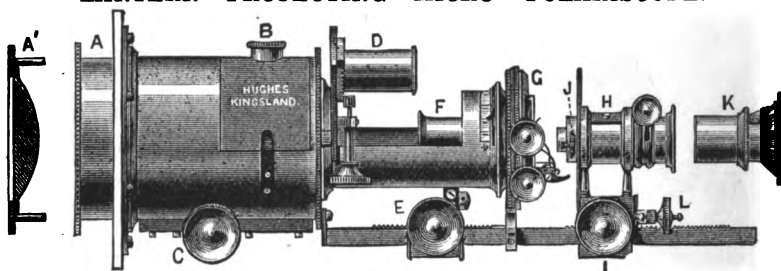

Fig. 55.
Fig. 55 illustrates this instrument which has all the latest improvements made up to the present time and has the polarizing prisms fitted, so that nearly all the experiments both in polarized light and projection can be shown to the class without in any way altering the instrument, a very great advantage to the demonstrator.
Reference to Fig. 55, shows—(A) cells containing condensers, one of which is fitted in cell upon a moveable rack work.—(C) by which means the amount of divergence of rays can be altered, this arrangement is for use with electric light, when the oxyhydrogen is used, the third lens (A') marked for "lime light only" must be added.—(B) Alum trough.—(D) polarizing prism made to rotate by means of milled head, this is shown in drawing thrown out of position, and is so placed when the ordinary projection microscope is in use, the aperture of body being covered by a moveable lid.—(E) rack work adjustment for substage condensers and all apparatus used behind the object.—(F) substage condenser. (G) mechanical rotating stage having  $\frac{3}{4}$ " motion in rectangular directions and is divided to 360 for use in crystallography.—(H) object glass holder on rack work which admits of focussing the different objectives.—(L) fine adjustment by means of  $\frac{1}{16}$  thread screw, this admits of the most delicate manipulation and is indispensable when high power objectives are in use.—(K) analyzing prism rotating mount also divided to 360°.—(J) dovetail slot in object glass holder to carry the quarter wave plate and Kleins quartz immediately behind the objective.